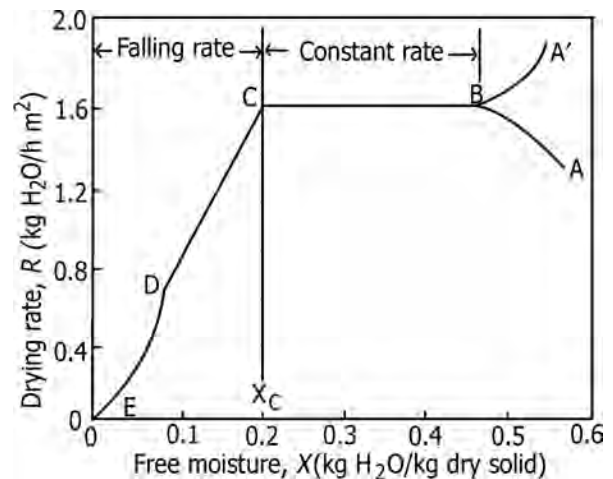

FIGURE 18.25 Typical drying rate curve for constant drying conditions.
- A plot of rate of drying versus free moisture content is known as drying rate curve (Figure 18.25).
- From point B to C in Figure 18.25, the line is straight, and hence the slope and rate are constant during this period. This constant rate of drying period is shown as line BC.
- Point C in Figure 18.25 is *critical moisture content*, X_C , which represents the point of transition from constant rate to falling rates. From point C, the drying rate starts to decrease.
- > The falling rate period has two sections as seen in Figure 18.25.
- > In this first falling rate period, the rate shown as line CD in Figure 18.25 is often linear.